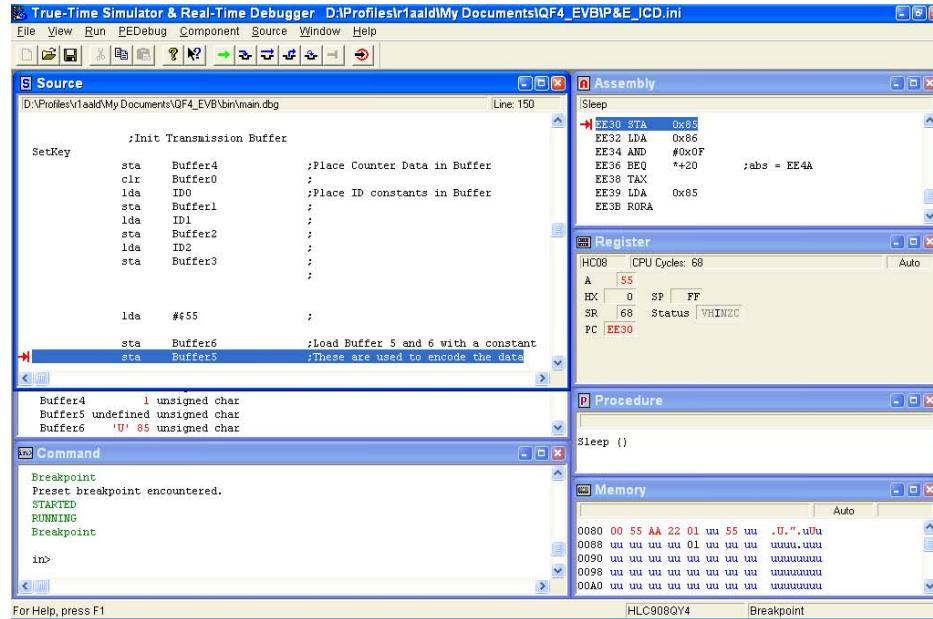

Figure 8. Creating the Transmission Buffer
- Creating the Transmission Buffer** — The code shown in Figure 8 creates the transmission buffer by loading the counter variable and ID constants into the RAM space that is defined as the buffer area.